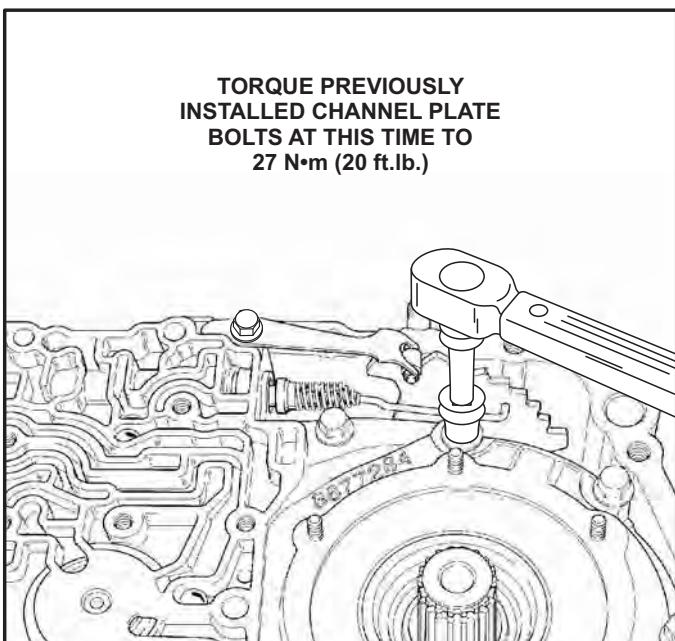

Figure 200
68. Torque the channel plate to case bolts that have been installed so far to 27 N·m (20 ft.lb.), as shown in Figure 200.